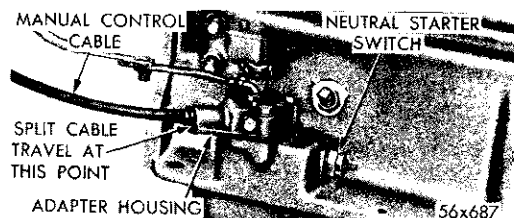

Fig. 39—Manual Control Cable Adjustment
- d. While holding manual lever in reverse position, adjust control cable for free play by pushing in until cable stops. Mark position on cable in relation to adapter housing. Withdraw control cable to stop and measure travel. Push control cable in adapter housing one half of total travel (Fig. 39). With cable in this position, tighten cable to transmission adjustable mounting bracket screw securely. Do not move cable when tightening bracket.
E. Kickdown band adjustment—The kickdown band adjustment screw is found on the left side of the transmission case (Fig. 39) Adjust to specifications.